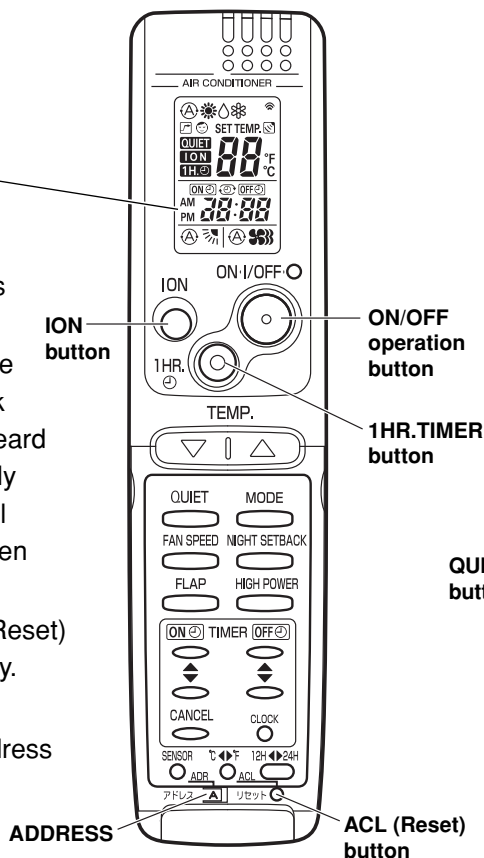

Fig. 64a
- (4) Each time the 1HR. TIMER button is pressed, the display changes as shown below. Press this button 2 times to change the display to "oP-7" (Address setting). (Fig. 64a or 64b)
- (5) "oP-7" has now been selected for address setting.
- (6) Press the ON/OFF operation button on the remote controller. (Fig. 64a or 64b) Check that the "beep" signal-received sound is heard from the second indoor unit (approximately 5 times). The sound you hear is the signal that the remote controller address has been changed.
- (7) Finally press the remote controller ACL (Reset) button to cancel the blinking "oP-7" display. (Fig. 64a or 64b)